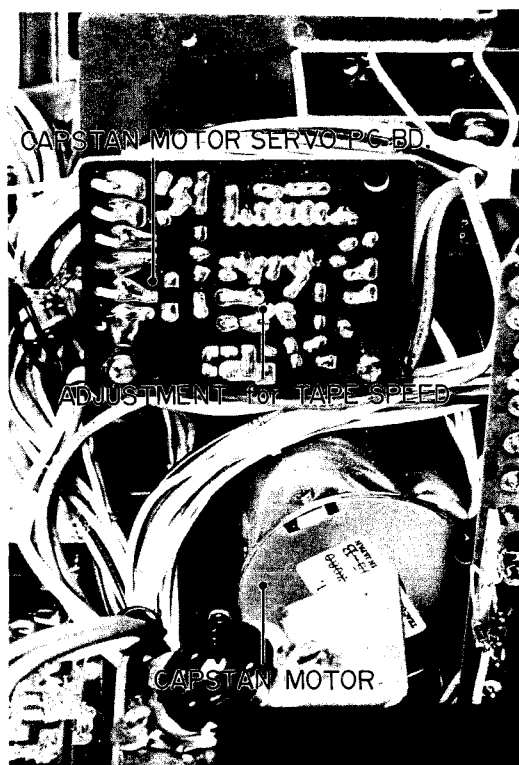

Fig. 5-8 Tape Speed Adjustment Location
4. Adjust the semi-fixed resistor as shown in Fig. 5-8 for reading of 3,000 Hz $\pm$ 5 Hz on the frequency counter. (NOTE: This tape speed setting should be done after approx. 30 seconds of operating time of the deck.)